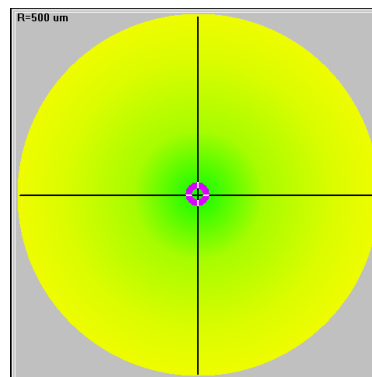

Fig. 5.3: The circular disc indicates the centroid position.
- The blue "donut" shown in Figure 5.3 indicates graphically where the beam is centered, this must be near the middle of the cross-hairs after centering the beam.
Table 5.4: BeamMap2 Specifications (Continued from Figure 5.3)